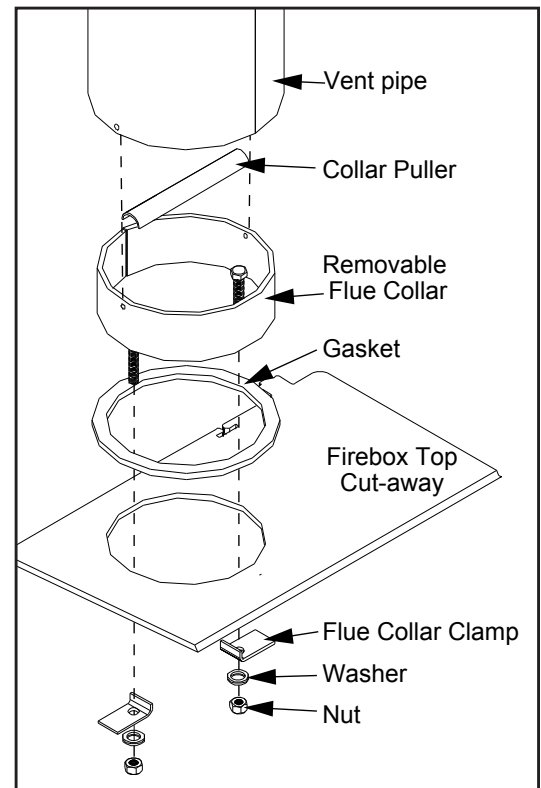

Figure 13: Attaching removable flue collar.
- a)** Remove the rear two (2) secondary air tube and C-Cast Ceramic Baffles, if installed (see C-CAST CERAMIC BAFFLE INSTALLATION). Remove the secondary air tubes by placing a screwdriver (any style except flat head) into one of the air holes and tapping it with a hammer/mallet to the left.
- b)** Unscrew the two (2) nuts on top of the inside of the firebox, using a $\frac{9}{16}$ " wrench or socket (see Figure 13). The Flue Collar Clamps will slide off the bolts.